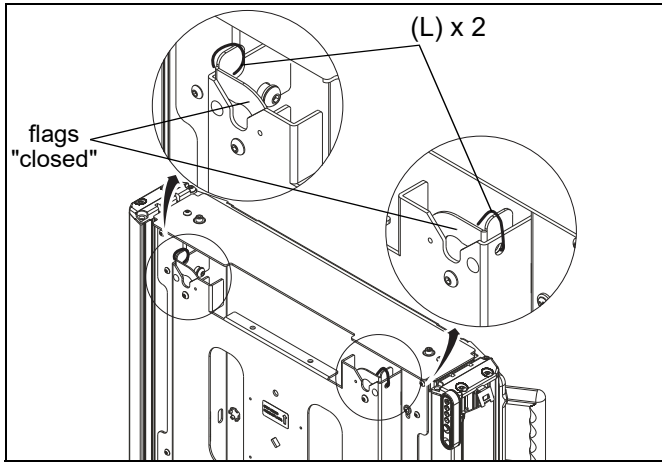

Figure 20
17. Install display with attached universal interface and move flags to "closed" position to secure display to mount. (See Figure 20)
IMPORTANT ! : Manufacturer recommends using cable ties (L) to secure the latching flags in closed position on both sides if padlock is not being used. (See Figure 20)